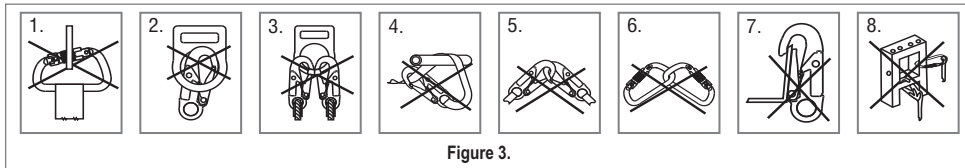

Figure 3.
Connectors are considered to be compatible with connecting elements when they have been designed to work together in such a way that their sizes and shapes do not cause their gate mechanisms to inadvertently open regardless of how they become oriented. Connectors (hooks, karabiners, and D-rings) must be capable of supporting at least 23 kN. Connectors must be compatible with the anchorage or other system components. Do not use equipment that is not compatible. Non-compatible connectors may unintentionally disengage (see Figure 3). Connectors must be compatible in size, shape, and strength. double locking snap hooks and karabiners are required by EN 362:2004.
- KStrong connectors (snap hooks and karabiners) are designed to be used only as specified in each product's user's instructions. See Figure 3 for illustration of the inappropriate connections stated below. KStrong snap hooks and karabiners should not be connected: